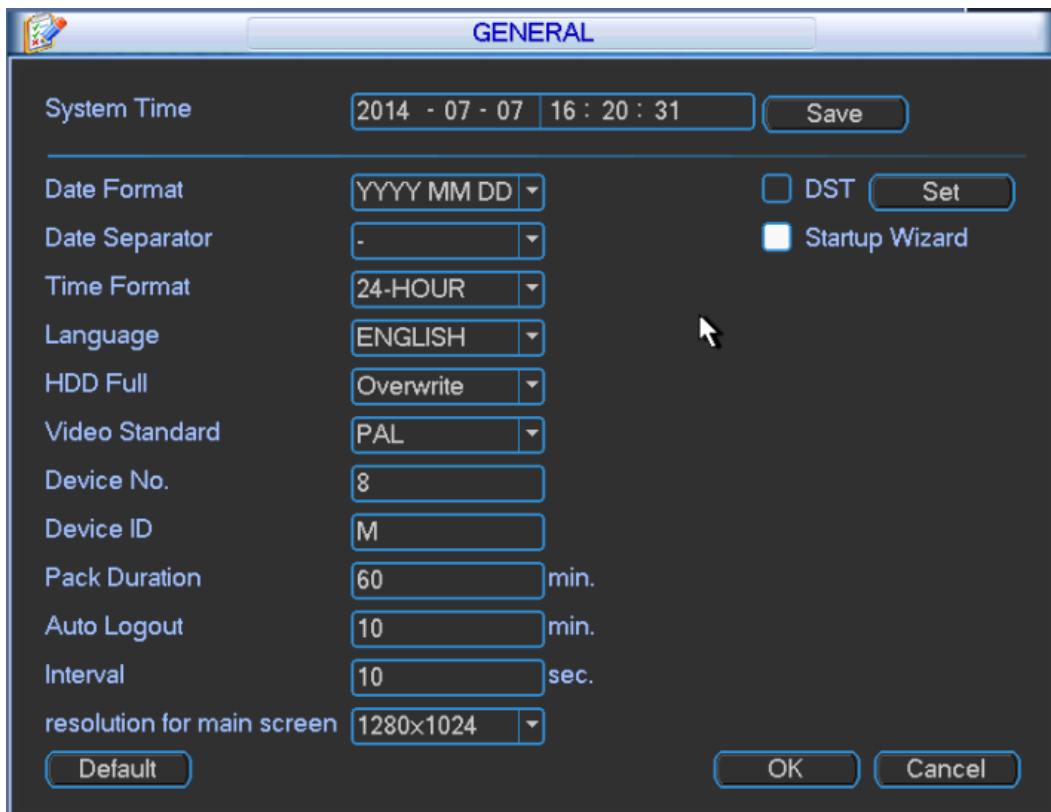

Figure 3-29
Step 1 In main menu, select “Setup>General”, and the system displays “General” interface, as shown in Figure 3-29.